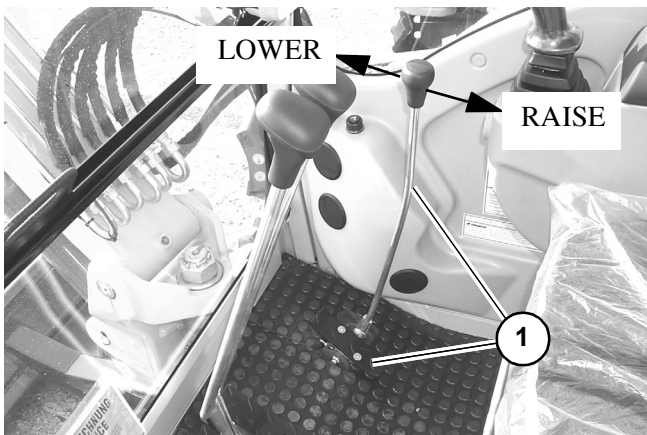

Figure 3-33 Dozer Blade Control
1. Raise or lower the dozer blade using control lever/pedal (1, Figure 3-33) located to the right of the travel levers/pedals. Move the lever forward to lower the dozer blade, rearward to raise the dozer blade.